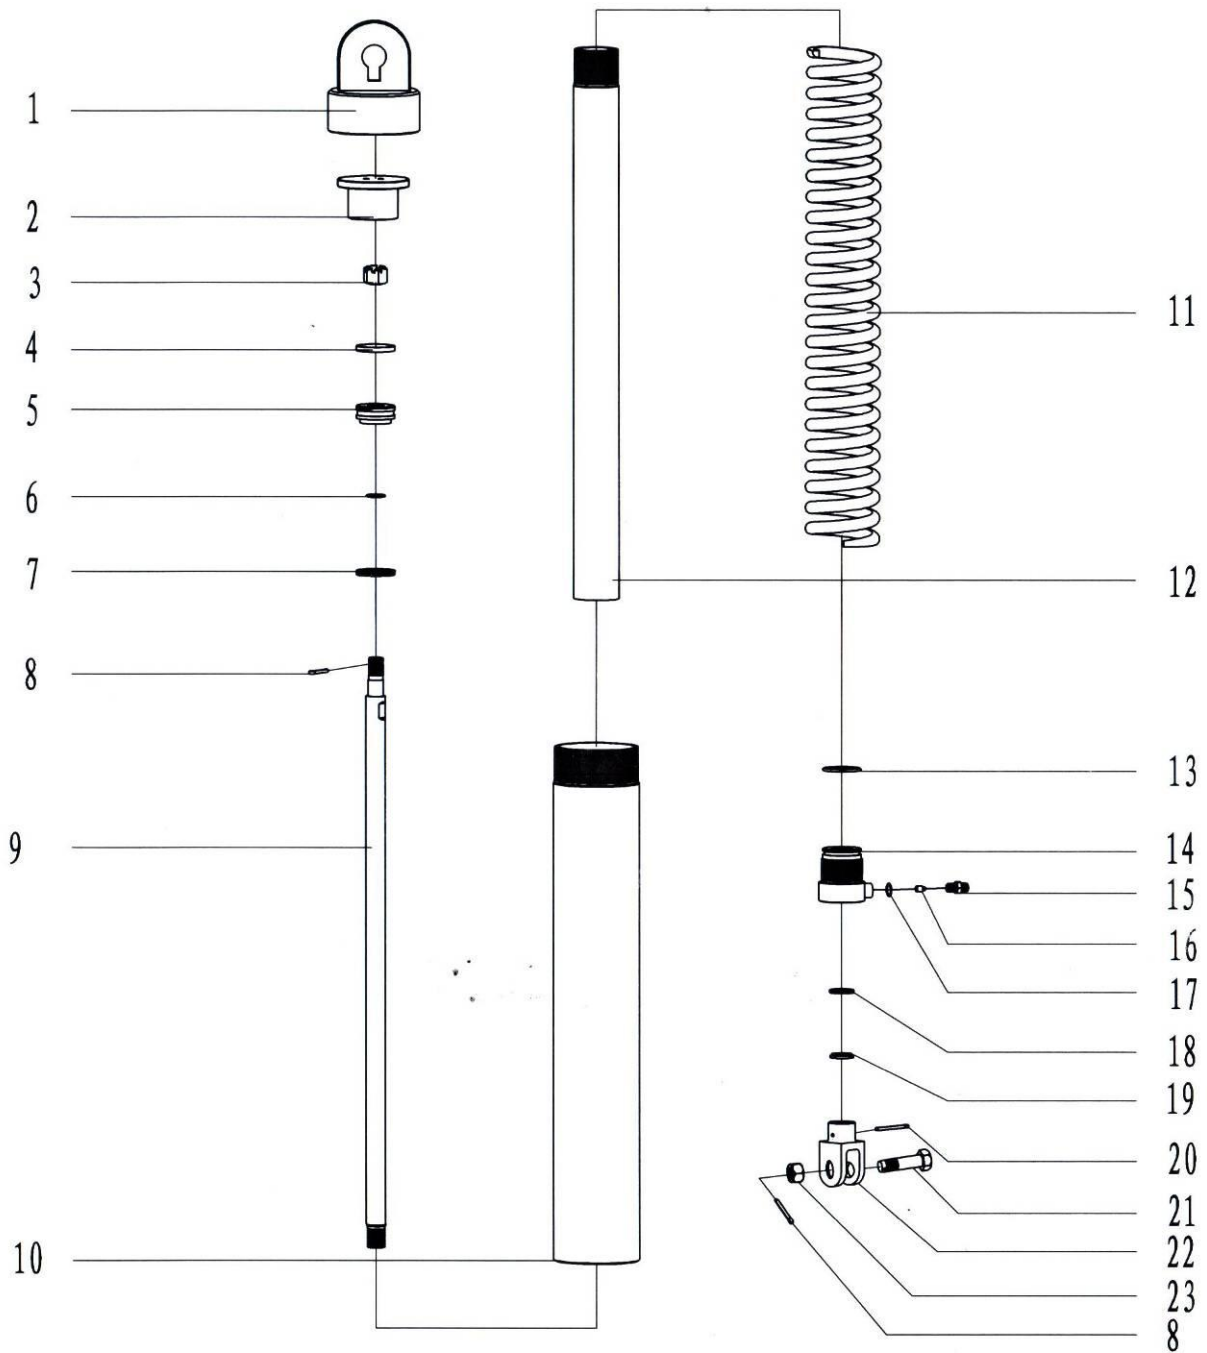

Fig.31
7.5. Hydraulic spring suspending device (Fig.31, Table.26)